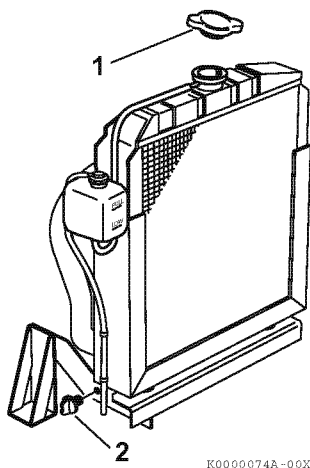

Figure 5-15
2. Remove the radiator cap (Figure 5-15, (1)).
3. Remove the drain plug or open the drain cock (Figure 5-15, (2)) at the lower position of the radiator and drain the engine coolant.